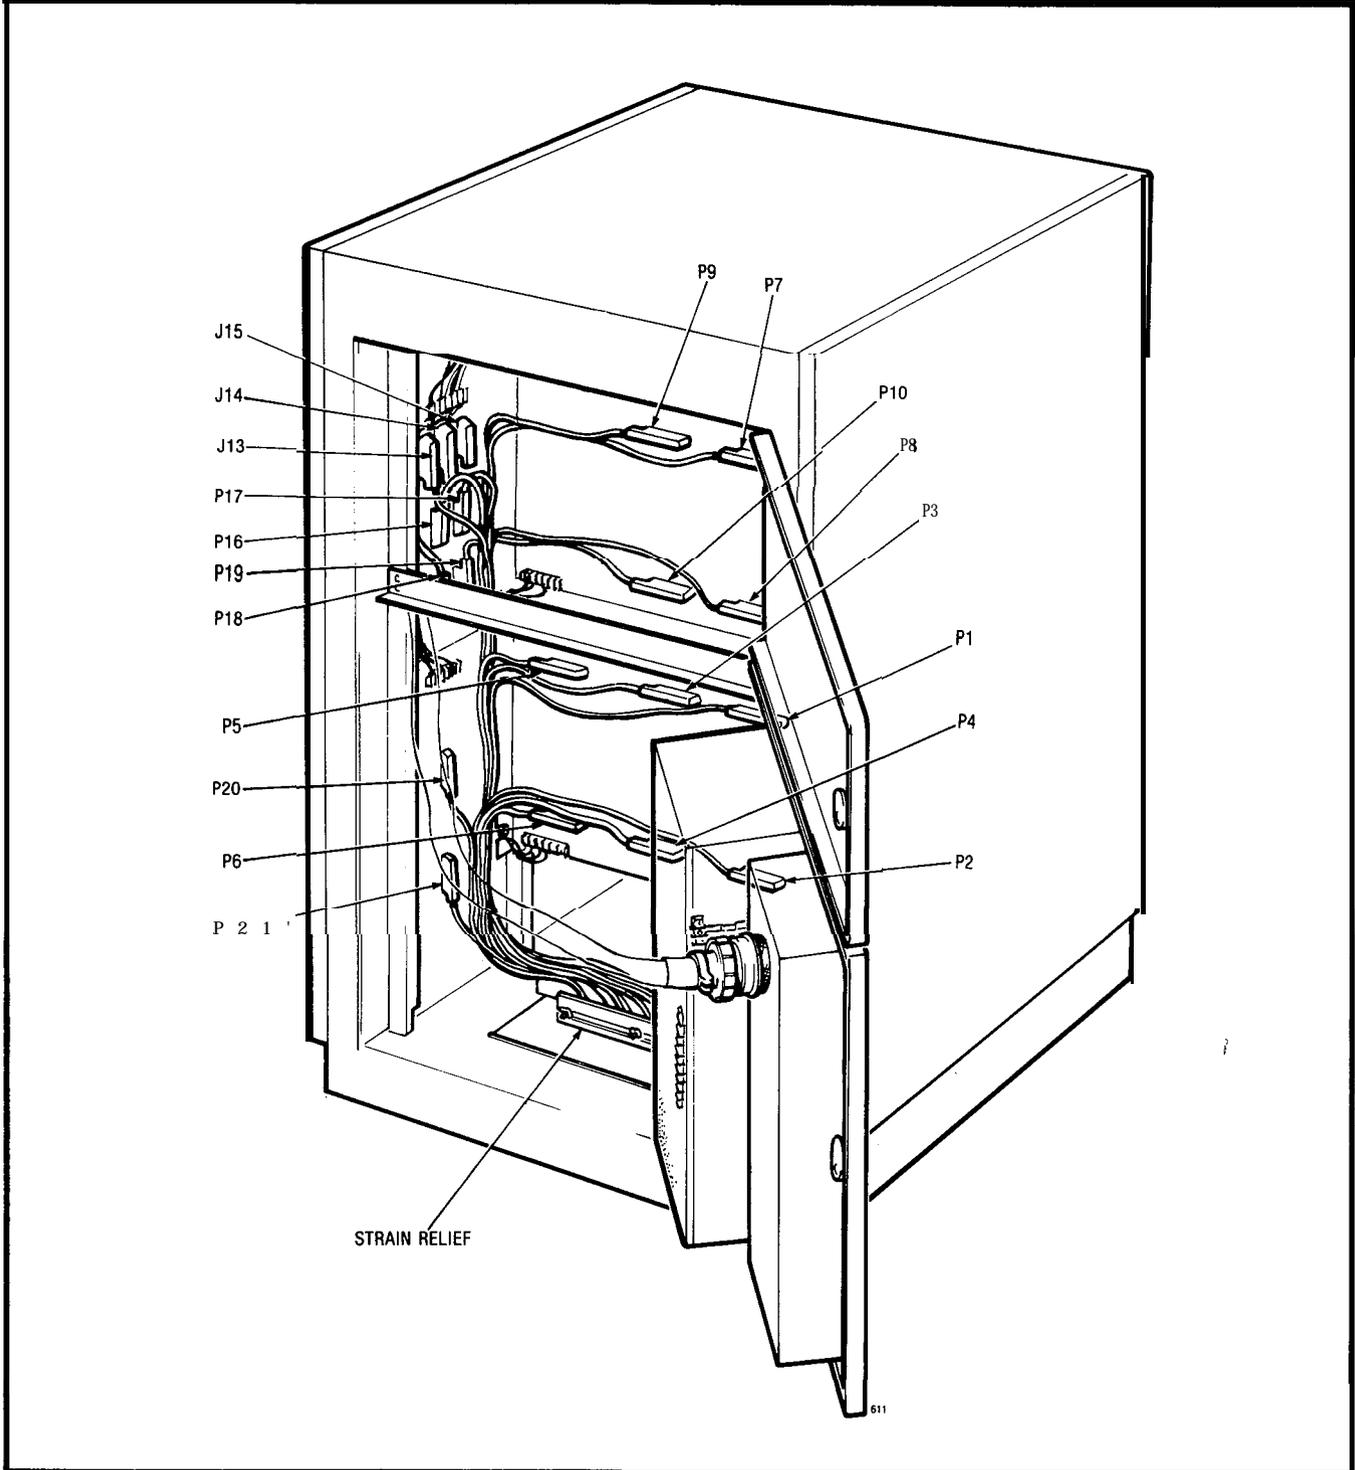

Fig. 405-1
- [5A] Dress cables down side of cabinet (Fig. 405-1)